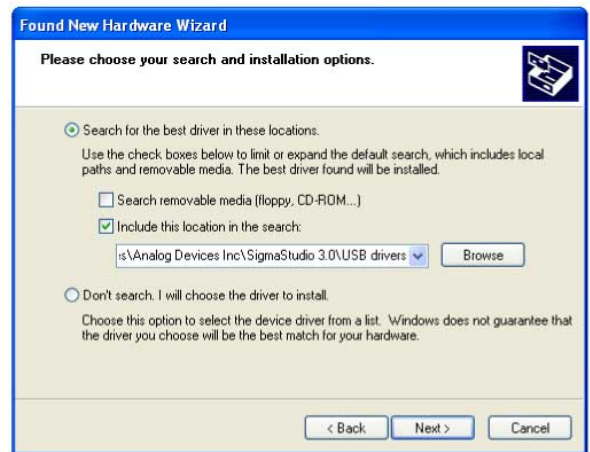

Figure 5. Found New Hardware Wizard: Search and Installation Options
2. Select **Search for the best driver in these locations**, select **Include this location in the search:**, and click **Browse** to find the USB drivers subdirectory within the SigmaStudio directory (see Figure 5). Then, click **Next >**.